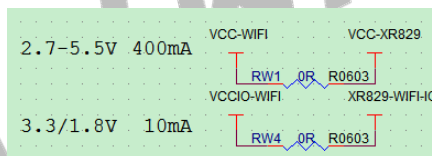

Figure 2-41 The Operating Voltage and Circuit of WiFi
- Mark the operating voltage and the maximum operating current of the WiFi power supply in the schematic diagram to facilitate PCB layout design. As shown in Figure 2-41.